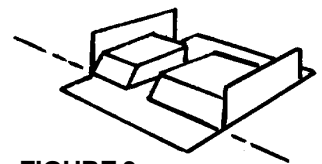

FIGURE 3
2. Select one or more of the shorter keepers and position them as shown in Figure 3. It is not necessary to make an exact length since the bend will carry over up to 1" between keepers, depending on the type and thickness of material being bent.